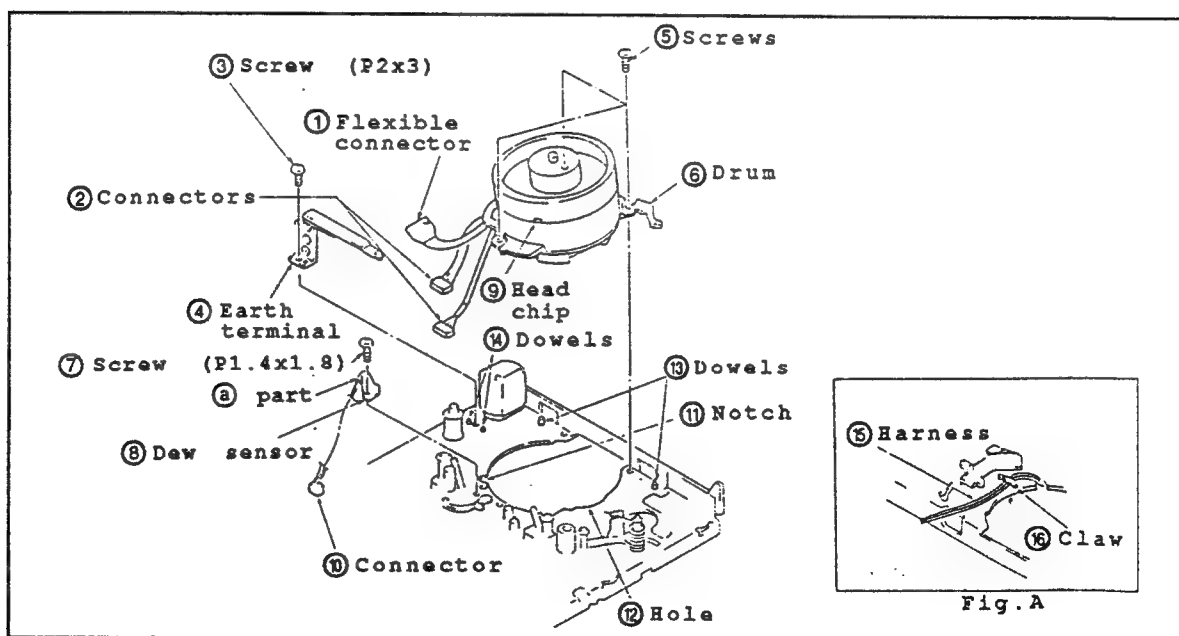

Fig.II-19
• Disassembling (Fig.II-19)
- (1) Set unloading state.
- (2) Unplug the flexible connector ① and the connectors ②.
- (3) In the same procedures in "3-2", detach the guide guard.
- (4) To detach the earth terminal ④, remove the screw ③.
- (5) To dismount the drum ⑥ from the chassis, remove the three setscrews ⑤.
- (6) Disconnect the connector ⑩.
- (7) To detach the dew sensor ⑧, remove the screw ⑦.
• Reassembling (Fig.II-19)
- (1) Mesh the ⑧ part of dew sensor ⑧ with the notch ⑪. Then, secure them with the screw ⑦.
- (2) Attach the connector ⑩.
- (3) Put the harness ⑤ of dew sensor ⑧ under the claw ⑫. (Fig.A)
- (4) Insert the connectors ② and the flexible connector ① into the chassis' hole ⑬.
- Then, mount the drum while aligning the dowels ⑭, and secure it with the screws ⑤.
- (5) While aligning the earth terminal ② with the chassis' two dowels ⑭, secure it with the screw ③.
- (6) In the same procedures in "3-2", attach the guide guard.
- (7) Attach two connectors ② and the flexible connector ① to the C.B.A..
*Notes: 1. Be careful not to flaw the head chip ⑨ and the tape path surface of drum ⑥.